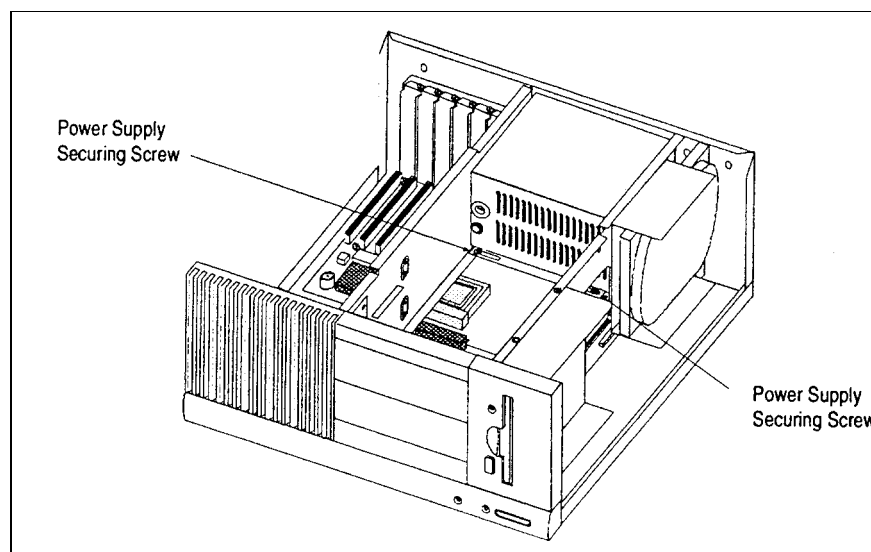

Figure 7-8. Power Supply Securing Screws
4. Remove the screws securing the power supply to the cabinet base (Figure 7-8).